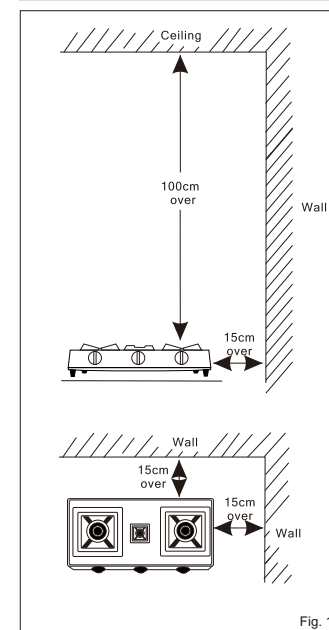

Fig. 12
7. When choosing a place to put the gas cooker, be sure to pick a spot that is firm and level. The gas cooker need plenty of space and air. Allow at least 15cm of space on the sides and 100cm above the unit. (Fig.12) if the space is less than 15cm from the in-flammable walls, be sure to provide a heat insulation board. Also be sure to keep paper, oil, and all other inflammable objects away from the gas cooker.